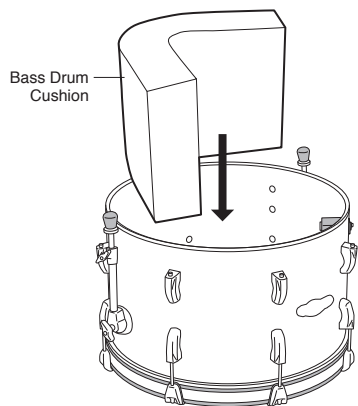

Fig.17
2. Turn the drum over and put the Bass Drum Cushion inside and at the bottom the Bass Drum Shell. Make sure that the Cushion doesn't touch the Jack Box inside the shell (Fig. 17).